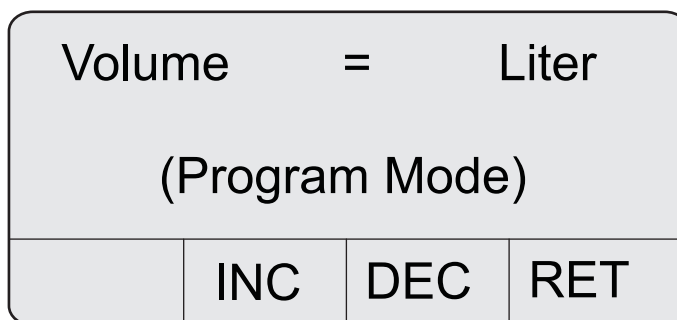

Figure 22 Volume screen
8. Press **2 (DSP)** and then press **2 (NXT)** four times to display the Volume screen (refer to Figure 22).